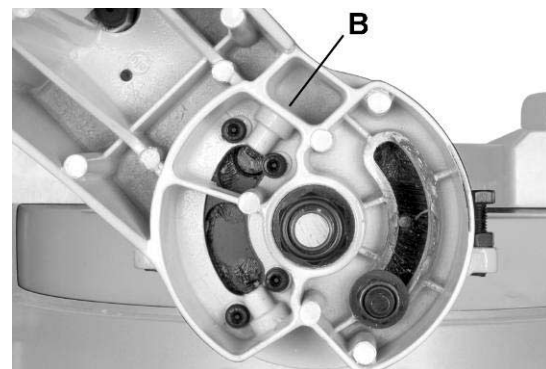

Figure 15
6. Repeat steps for the right bevel 33.9° bevel adjustment, making adjustments to *setscrew* B, Fig. 15.